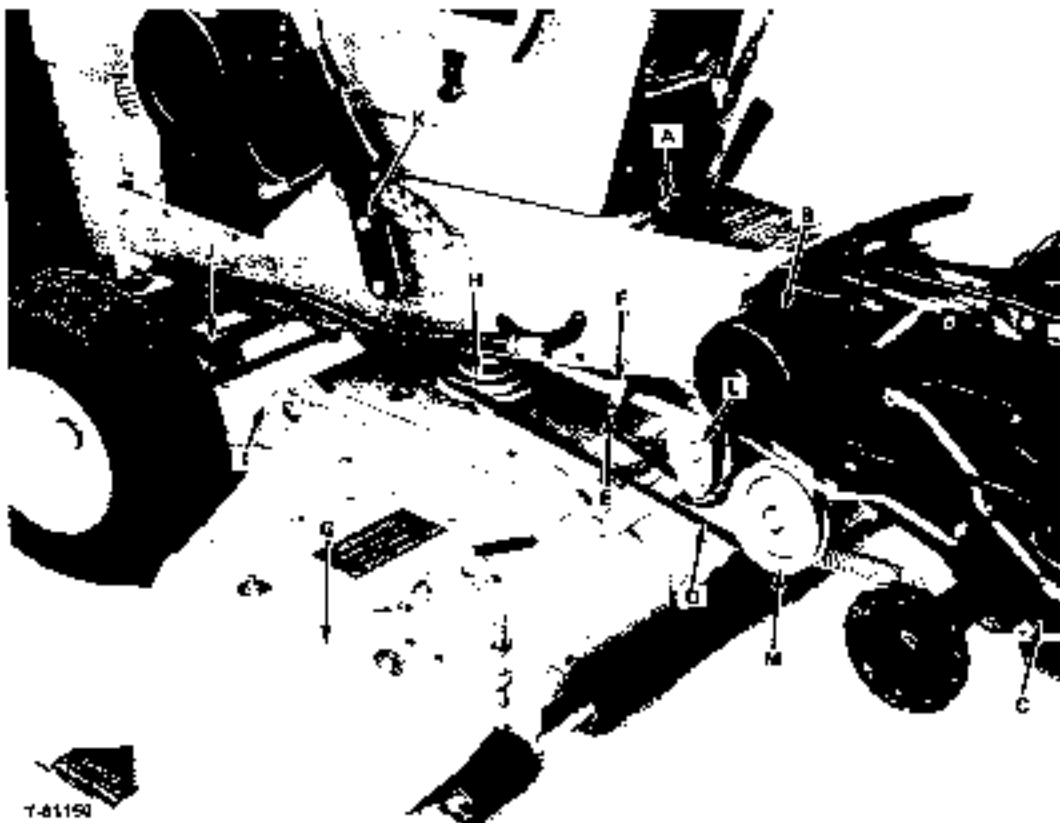
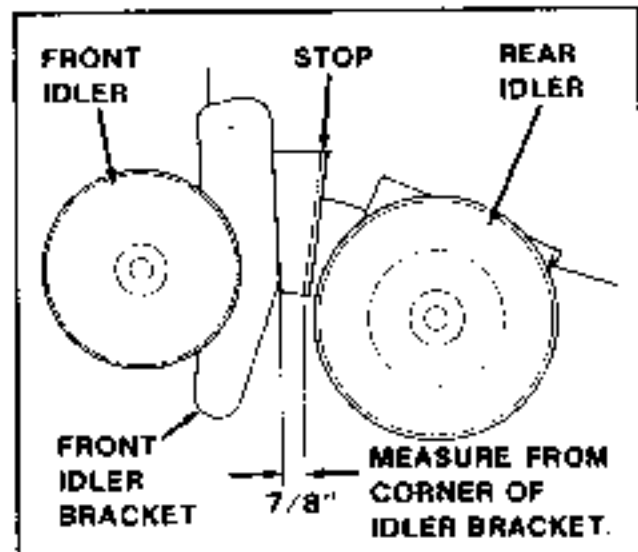

FIGURE 37 - Mower Installation
FIGURE 37A
4. Use the lift cable pin and spring clip to attach the tractor lift cable clevis to the mower lift anchor, (E, Figure 37).
**NOTE:** The front idler pulley (L, Figure 37) should be in the top mounting hole for mower installation.
8. Push the belt tensioning lever (C, Figure 37) fully down and forward.
10. Install the mower drive belt provided on the mower pulley and the tractor pulleys. The belt must be seated in the inner groove of the PTO pulley. Make sure that flat side of the belt contacts the front idler pulley (L).
12. Notice that the rear idler pulley (M) is mounted in a slot. The pulley can be moved forward or back to increase or decrease belt tension. For initial setting proceed as follows. With the pulley tensioning lever pulled fully up and back, measure the clearance between the front idler bracket and the stop. See diagram in Figure 37A. The clearance should be approximately 7/8" (22 mm). If not, push the belt tensioning lever down. Change position of the rear idler pulley in the slot. Recheck the measurement with belt tensioning lever pulled up and back.
2. Push the belt tensioning lever (C, Figure 37) fully down and forward to release mower belt tension.
3. Raise the tractor seat deck and remove the mower drive belt from the mower and tractor pulleys (see Figure 37). Close the tractor seat deck.